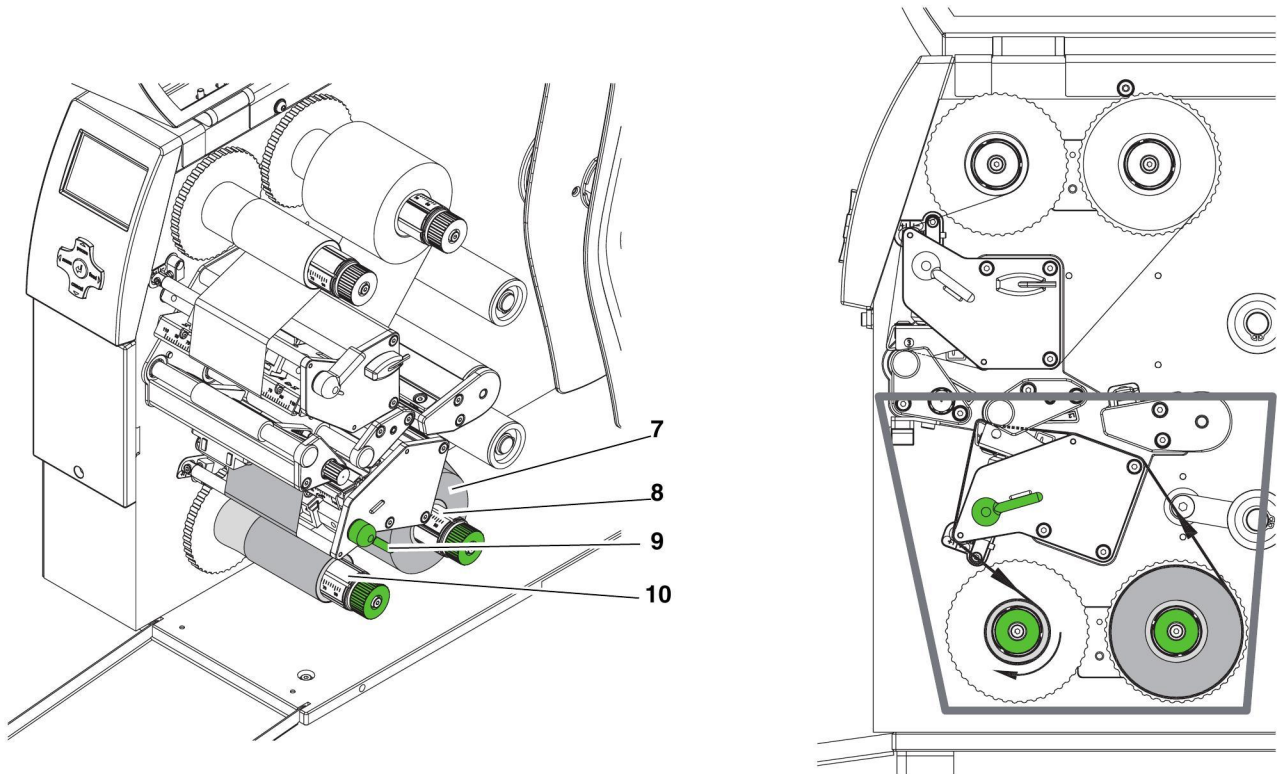

Figure 2-5 Lower feed path of the ink ribbon
- Guide ink ribbon through the print unit as shown in Figure 2-5.
- Secure the starting end of the ink ribbon to the ink ribbon core on the take-up hub (10) with adhesive tape. Ensure clockwise direction of the take-up hub here.
- Turn take-up hub (10) clockwise to smooth out the feed path of the ink ribbon.